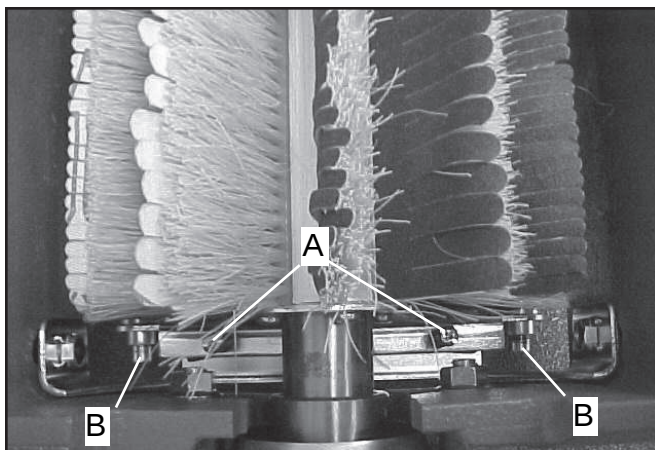

Fig. 11 Tension rollers and adjustment bracket
2. Set tension rollers to type of stock being sanded (See Tension Roller Adjustment below and Fig. 11).
Spring loaded infeed and outfeed Tension Rollers (B, Fig. 11) are provided to maintain downward pressure on stock being sanded and to prevent slippage of the stock on the conveyor. When properly set, the Tension Rollers should engage or raise up about 3mm to accommodate the stock being brushed.
The tension roller pressure is factory set for most applications. However, the pressure of each roller can be adjusted. Caution, too little pressure can result in slippage of stock on conveyor belt or kick-back. Too much tension can cause snipe when drum sanding or not enough lift when sanding profiled material. To increase tension turn the tension adjusting screw (A, Fig. 11) clockwise ¼ revolution at a time. To decrease tension turn the adjusting screw counter-clockwise ¼ revolution at a time.
short, flat stock only. To adjust, remove the four tension adjusting screws (A, Fig.11), keeping track of screw penetration into retaining nut. Slide rollers in toward drum using retaining nut closest to drum. Reinstall four adjusting screws with the same tension or penetration into retaining nut.